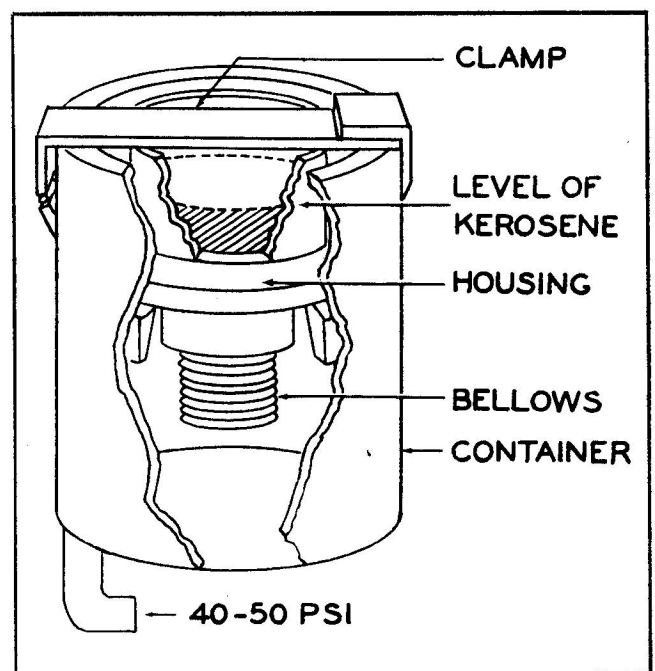

Figure 2-7. Testing Seal Between Bellows Seal Assembly and Housing for Leakage
2-42. TESTING SEAL BETWEEN BELLOWS SEAL ASSEMBLY AND HOUSING FOR LEAKAGE (see figure 2-7).
a. Clamp assembled bellows seal assembly and housing into container as shown in figure 2-7.